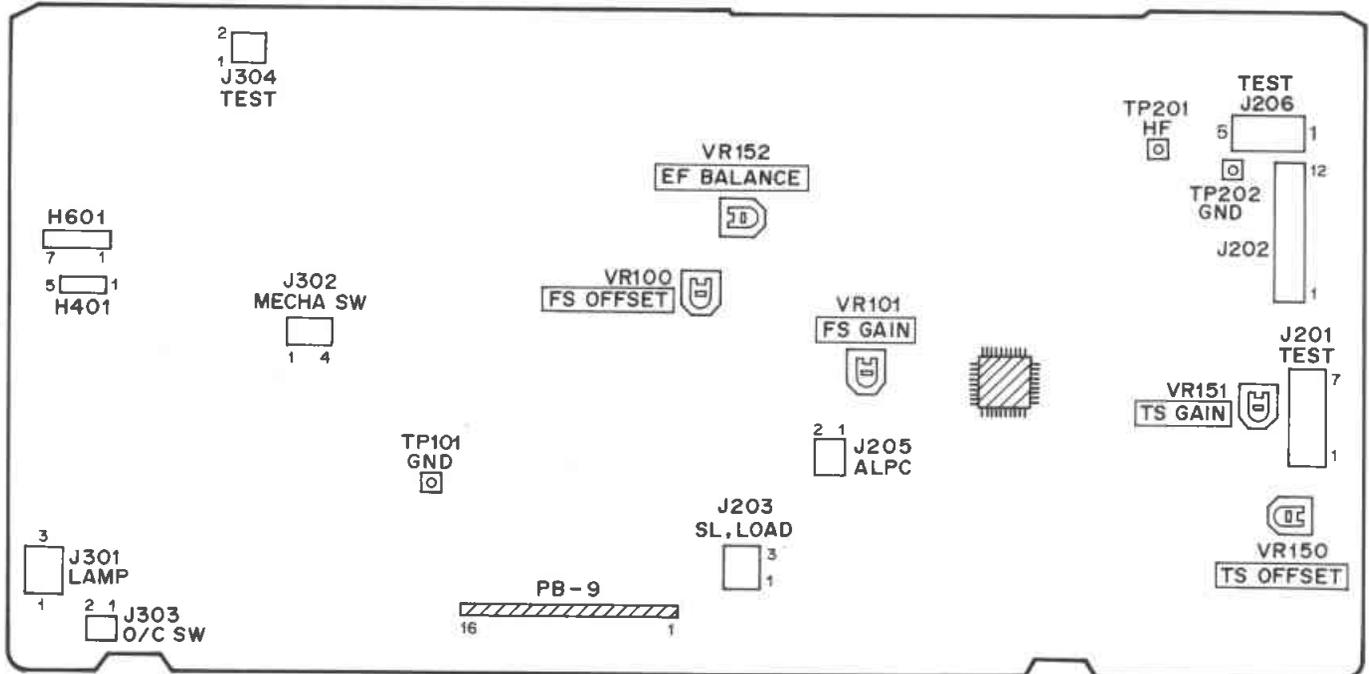

Fig. 15
If laser power meter is not available, connect items ① ~ ③ in the configuration indicated in Fig. 15.